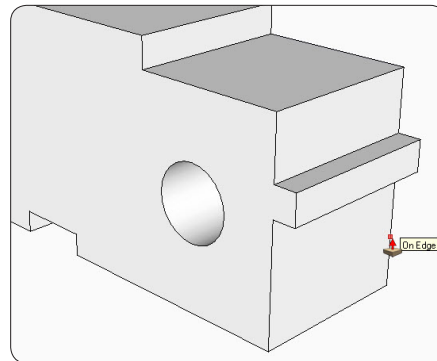

Figure 18. Using the Push/Pull Tool to shape the dado.
Step 15 Select the Push/Pull Tool. Click on the face of the dado, release the mouse button, and move the mouse to push the dado toward the background. Click the Push/Pull Tool on the back edge of the end piece. This ends the push/pull movement and creates a dado, as shown in Figure 18. Use the Orbit Tool to change your view so you can see through the dado.